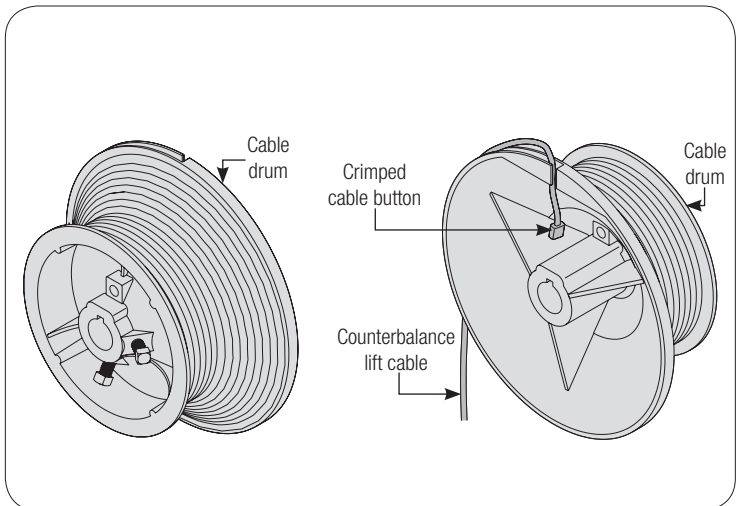
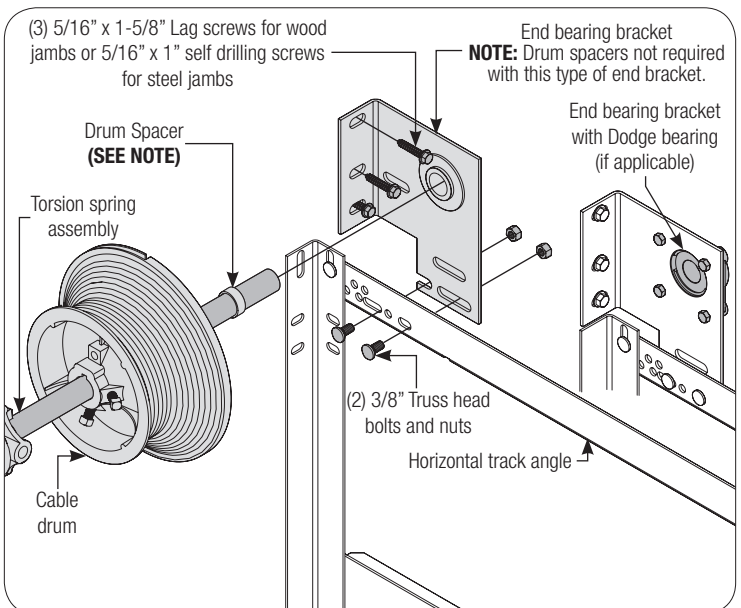

FIG. 4.1
FIG. 5.1
- If you have 800-120 or 6375-164 Cable Drums = Headroom Minus 14", as shown in FIG. 5.1.
Secure the end bearing brackets to the horizontal track angle using 3/8" truss head bolts and nuts. Next, attach the end bearing brackets to the door jamb using (3) 5/16" x 1-5/8" lag screws for wood jambs or (3) 5/16" x 1" Self drilling screws for steel jambs, as shown in **FIG. 5.1**. Attach the counterbalance cable to the cable drum, as shown in **FIG. 4.1**.